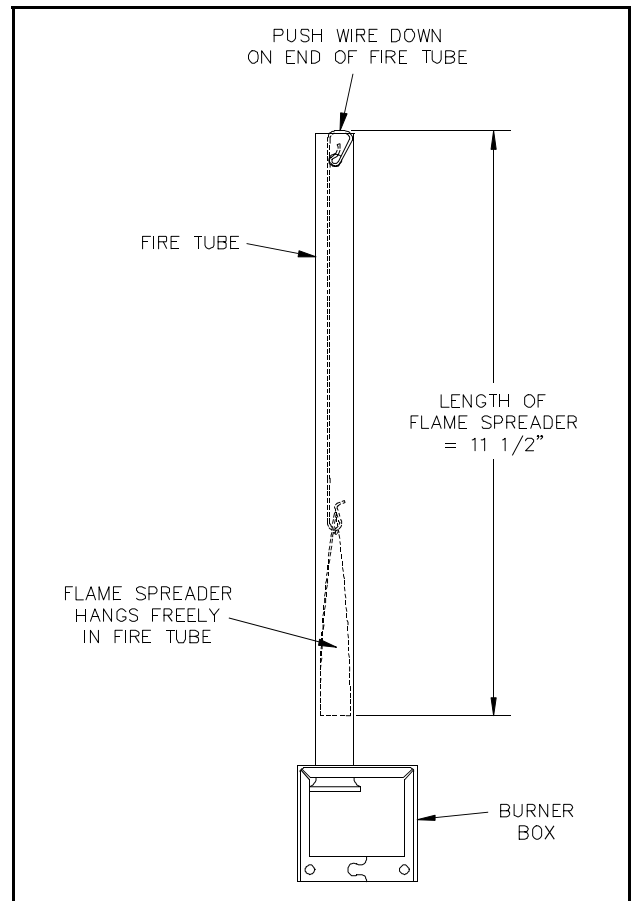

Figure 12 - Flame Spreader Position
- * If extremely poor cooling is observed on Gas mode only and all of the above observations seem normal, make sure the flame spreader is properly placed in the fire tube. See Figure 12 for proper position.